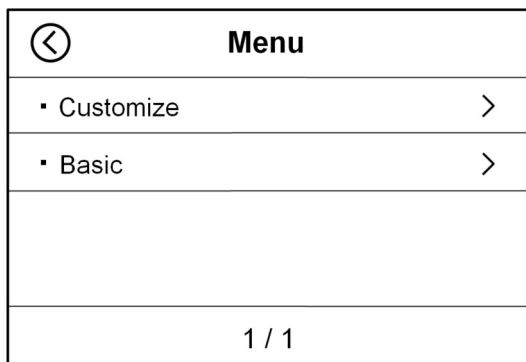

Figure 38
1) In the main interface of the machine, press the "MENU" button on the right to enter the "MENU" interface shown in Figure 38 below. Then touch "Customize" to enter the "Customize Settings" interface, as shown in Figure 39 below.